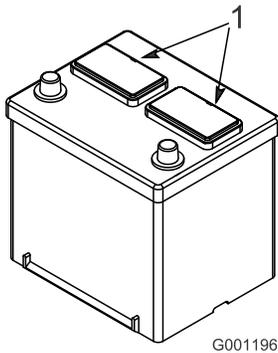

Figure 9
- Clean the top of the battery and remove the vent caps (Figure 9).